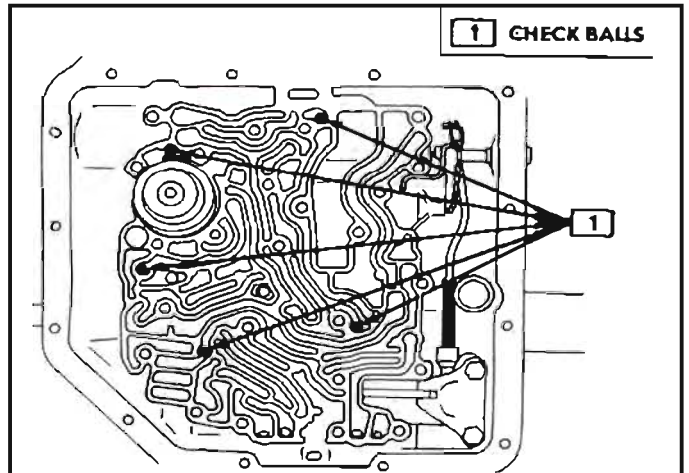

Figure 108 Check Ball Location
3. Install 5 check balls into correct transmission case pockets. See Figure 108. If number one (1) check ball is omitted or incorrectly placed, transmission failure will result die to minium line pressure.